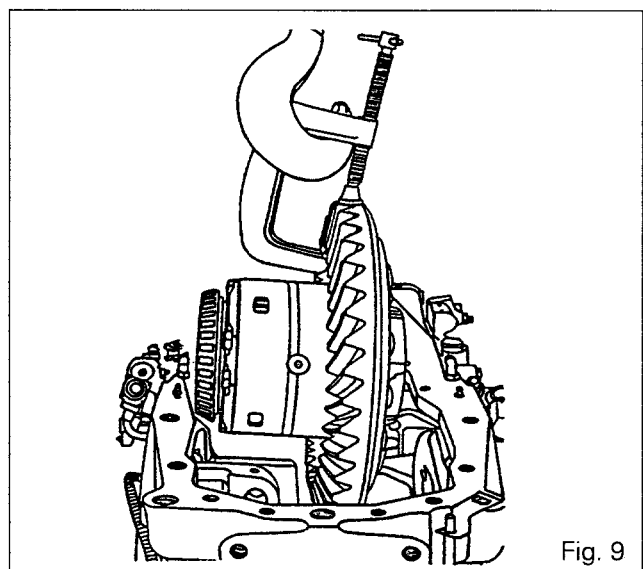

Fig. 9
37. Support the differential assembly using a hoist and a G clamp (Fig. 9).
38. Before working on bolts (2), consult the paragraph on "Special points" in Part A. Loosen the nuts (2) alternately so as to release the spring (6) gradually.
39. Remove the carrier (9), the spring (6), the coupler (7) and the washer (11).
40. Remove the bolts (26).
41. Remove the cover (25).
42. Withdraw the differential assembly from the housing (Fig. 9).